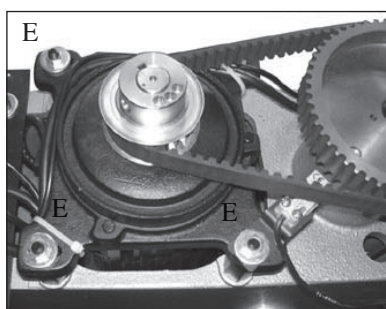

Fig. 12
7. Tighten 4 screws (E-fig.12) to secure the motor in place.